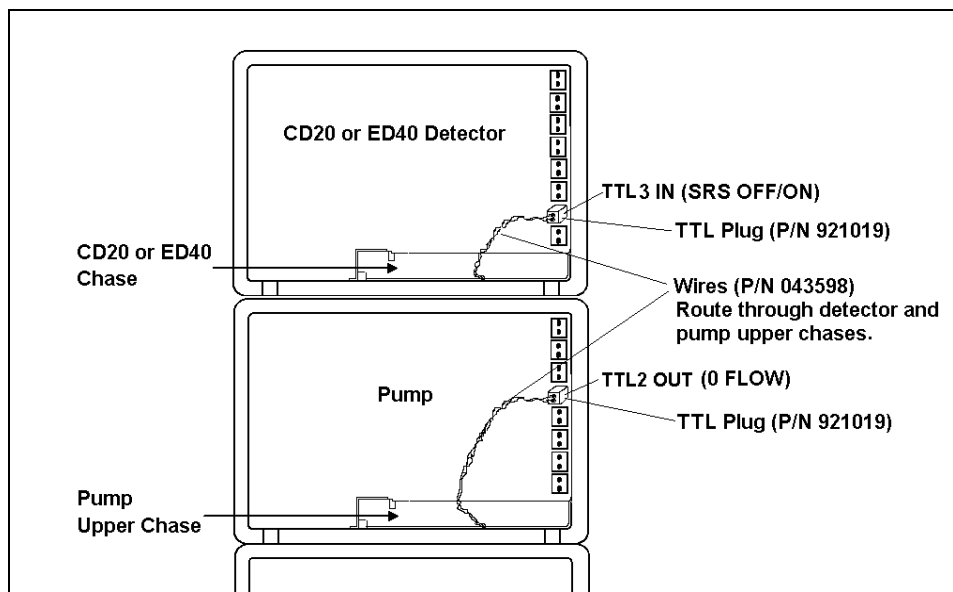

Figure B-7. TTL Connections for SRS Power Control
5. Plug one end of the cable into **TTL2 OUT** on the GP40. (The TTL connectors are located behind the upper door). Route the cable through the upper chases of the GP40 and the CD20 or ED40. Plug the other end into **TTL3 IN** on the detector (see Figure B-7).